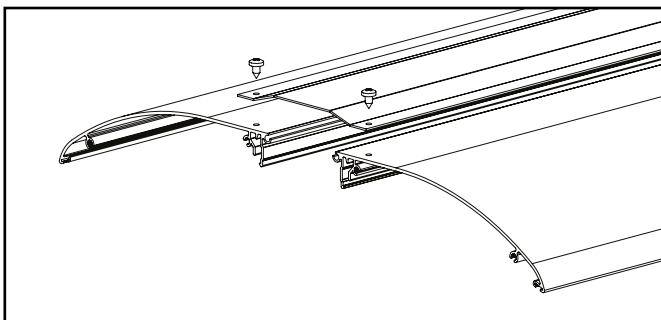

fig. 5 : The cover profile
- A profile, in the colour of the cover profile covers up the opening between the 2 cover profiles. (See fig. 5)